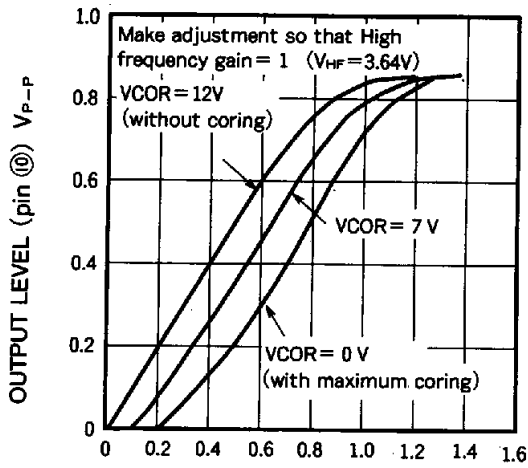

Fig. 1 High Frequency Input versus Output
The operation is explained below using the Application Example. Luminance signals applied to the input pin are divided by LPF (low-pass filter) and HPF (high-pass filter) into two bands; each is applied to high frequency (pin ①) and low frequency (pin ⑥) inputs. In the application example the cut-off frequency for both LPF and HPF is set to approximately 700 kHz. Signals under a certain level contained in the high frequency components applied to pin ① are cut by the coring circuit. This cutting level can be adjusted by pin ②, coring level control, as shown in Figs 1 and 2. Signals passed through the coring circuit are output at pin ④ being corrected by the outline correction capacitance.